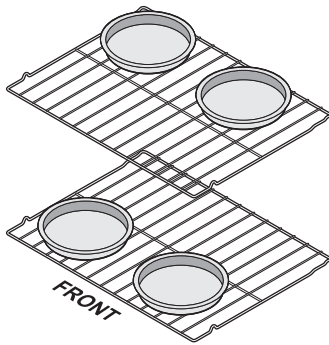

Figure 21: Pan positions for best results
- When baking cakes using two oven racks place bakeware in positions 3 and 5 and place bakeware as shown in Figure 21.